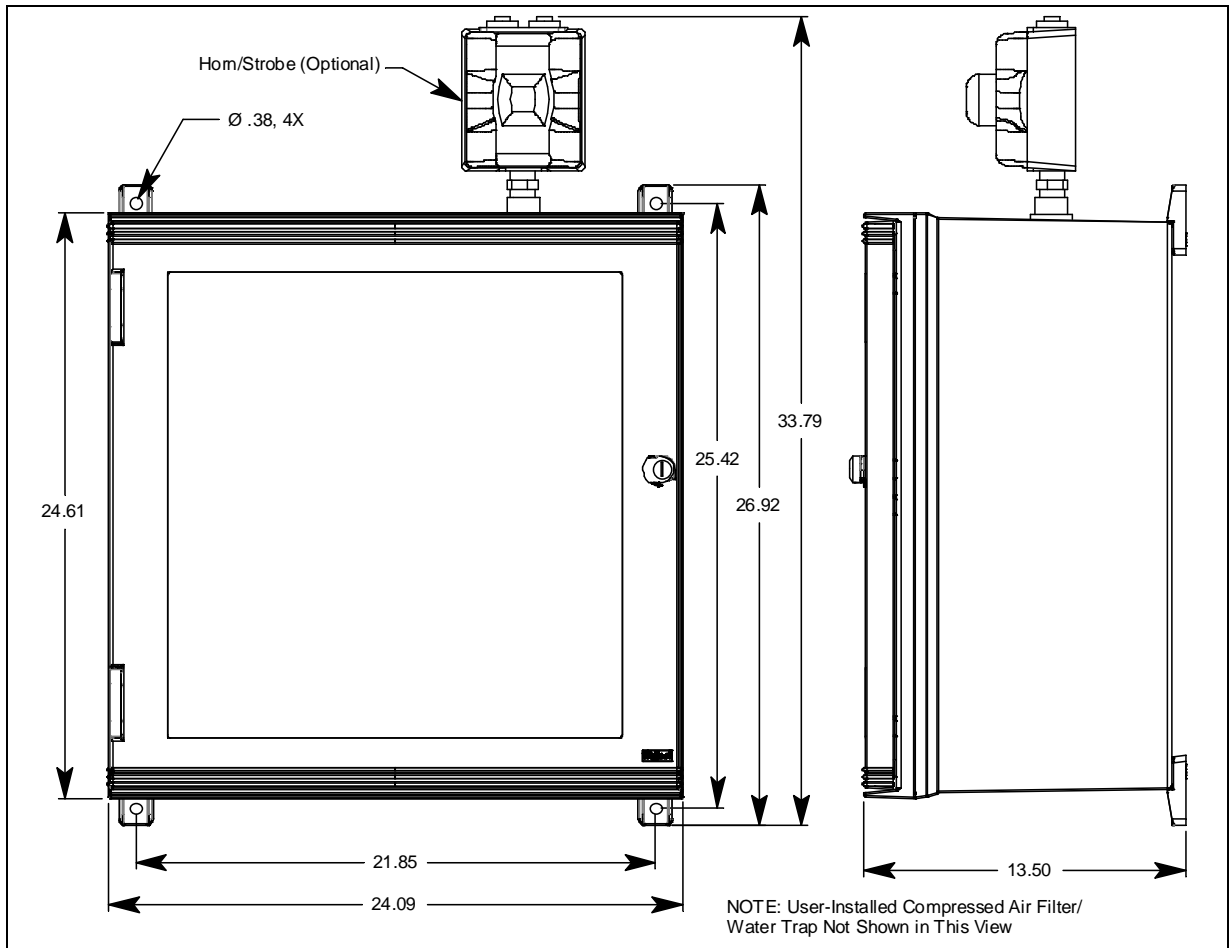

Figure 11: Mounting Dimensions
4. Prepare the selected mounting site as required to mount the Digester Gas Monitor. It should be mounted at eye level (4 1/2 to 5 feet from the floor). Refer to Figure 11 for the outline and mounting dimensions.